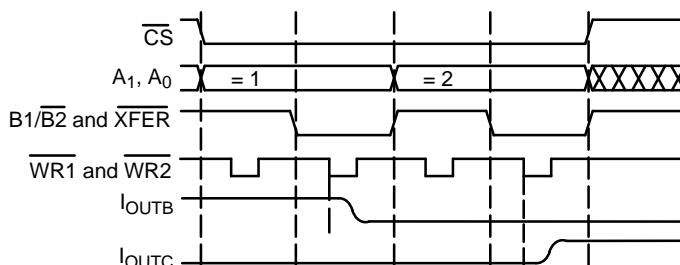

Figure 7. Automatic Transfer to DAC Latches
- 3) **Automatic transfer to DAC latches.** An 8-bit bus can update any DAC with two cycles by connecting $\overline{WR1} = \overline{WR2}$ and B1/B2 = \overline{XFER} . This is the correct individual DAC update for 8-bit busses (Figure 7.).